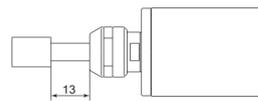

Fig. 21
- Do not exceed 13mm of overhang for mounted grindstones as shown in Fig. 21. If the overhang must exceed 13mm, reduce the motor speed in accordance with Table 5.